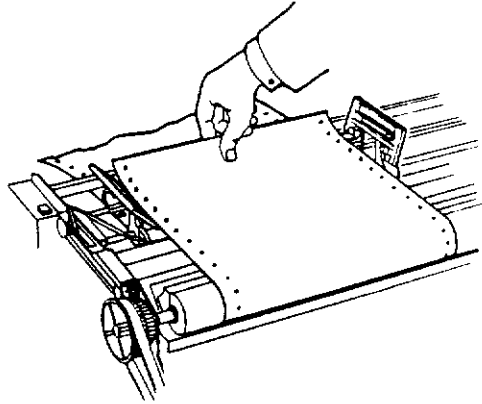

Figure 2-14. Pulling the Paper Over the Tractor Pins.
9. Open the top tractor gates (now facing you), pull the end of the paper toward the back of the printer to take up the slack in the paper, and engage the holes in the paper with the pins on the tractors. See Figure 2-14.